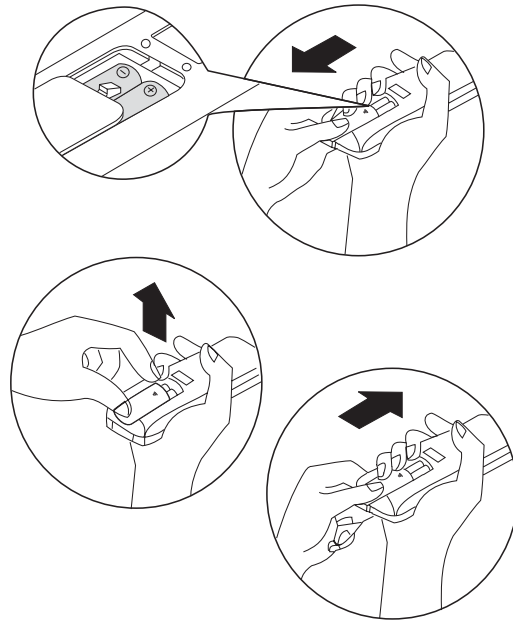

fig. 9
- Remove the protective cover (see Figure 9).